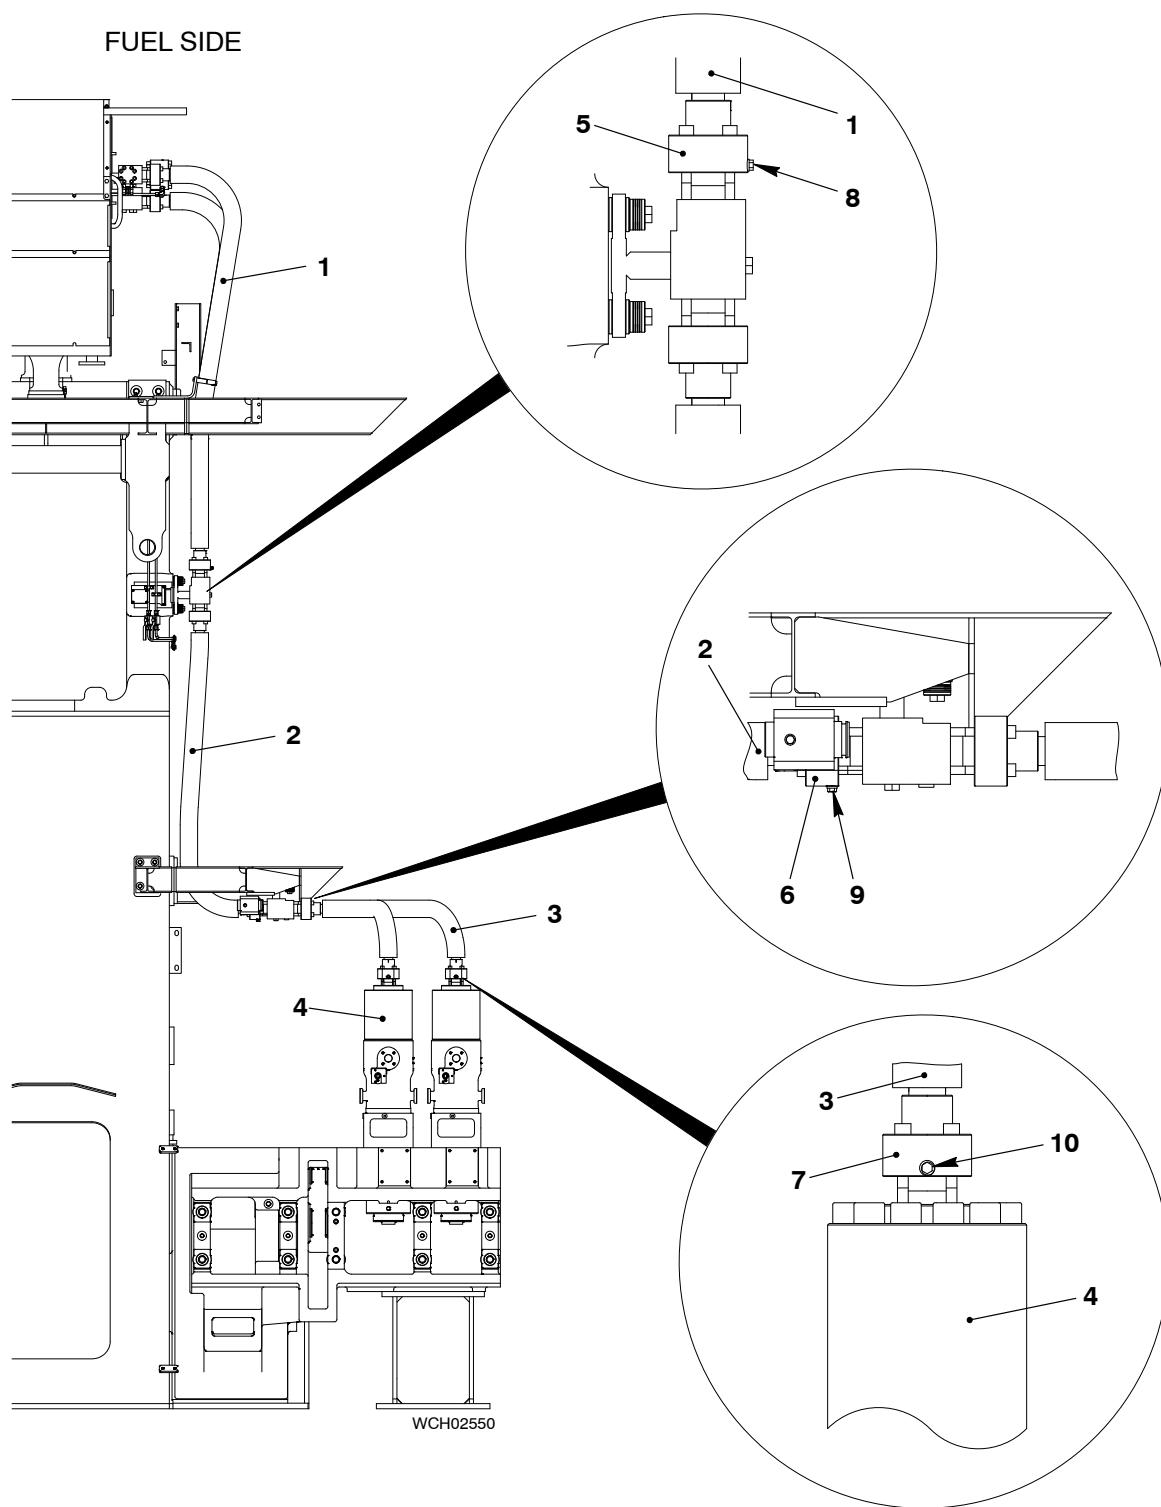

Fig. 2: Leakage Inspection Points
- 1) Carefully loosen each of the screw plugs (8, Fig. 2) on the flange (5) of the HP fuel pipe (1), a maximum of two turns.
- a) If fuel flows out, the related HP fuel pipe (1) is defective.
- b) If fuel does not flow out, tighten the screw plugs (8).
- 3) Carefully loosen each of the screw plugs (9) on the flange (6) of the HP fuel pipes (2), a maximum of two turns.
- a) If fuel flows out, the related HP fuel pipe (2) is defective.
- b) If fuel does not flow out, tighten the screw plugs (9).
- 5) Carefully loosen each of the screw plugs (10) on the flange (7) of the HP fuel pipes (3), a maximum of two turns.
- a) If fuel flows out, the related HP fuel pipe (3) is defective.